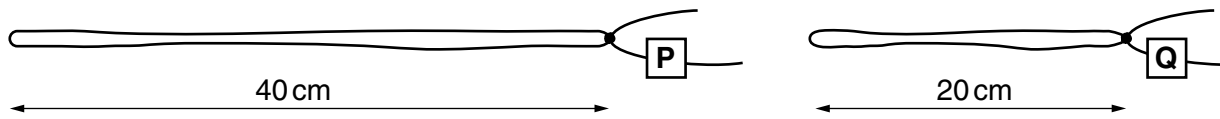

Fig. 1.2
- The loops should have approximate dimensions as shown in Fig. 1.2.